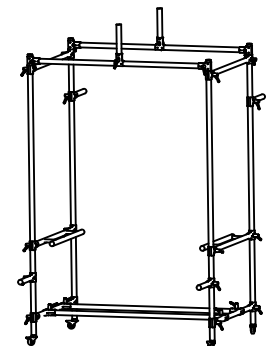

fig. 3
3. As Fig. 3, attach 2x tube H onto tube A and tube D by T-clamps respectively, with position as Fig. 3.